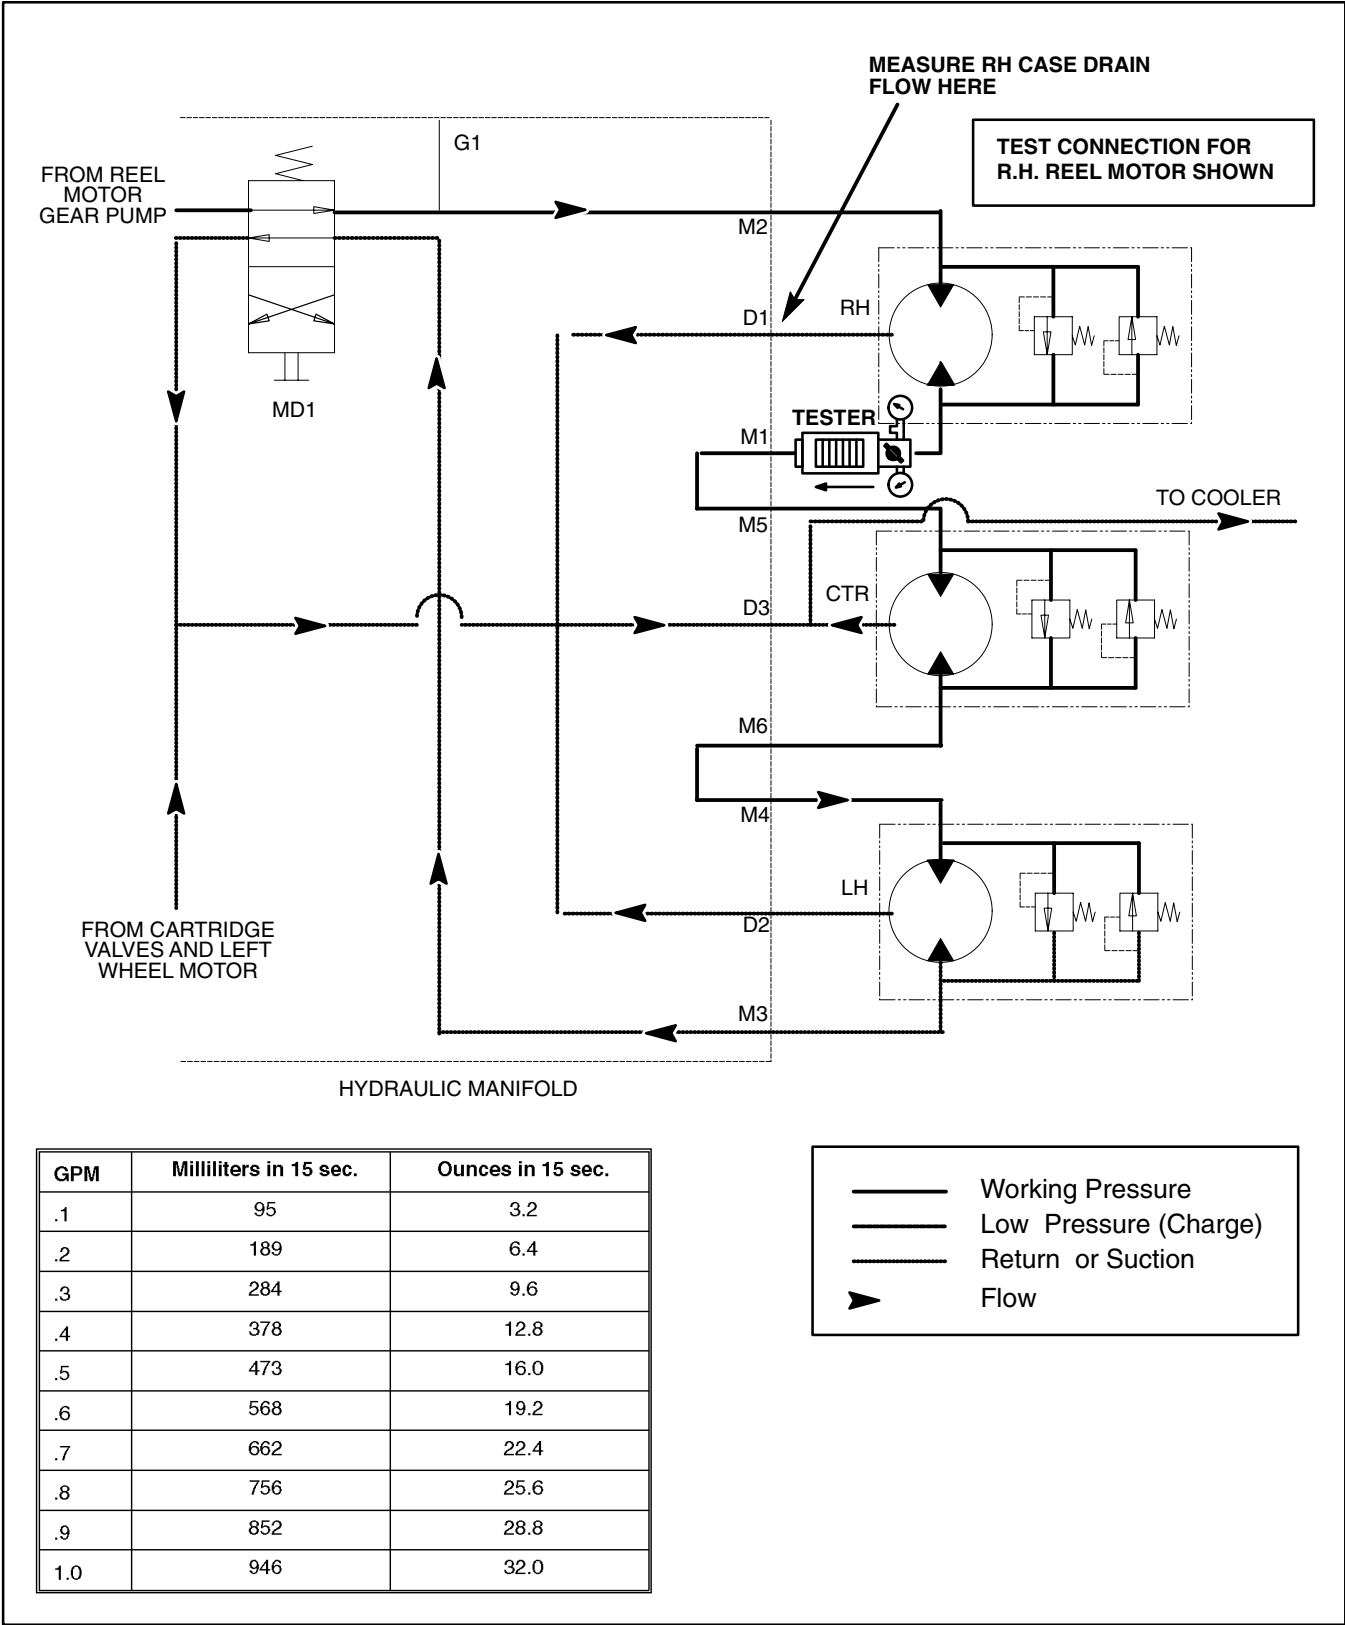

Figure 30
12. Measure the amount of oil collected in the container. Divide the number of ounces collected by **32** to get gallons per minute. (divide the number of milliliters collected by **250** to get liters per minute). See chart in Figure 30.